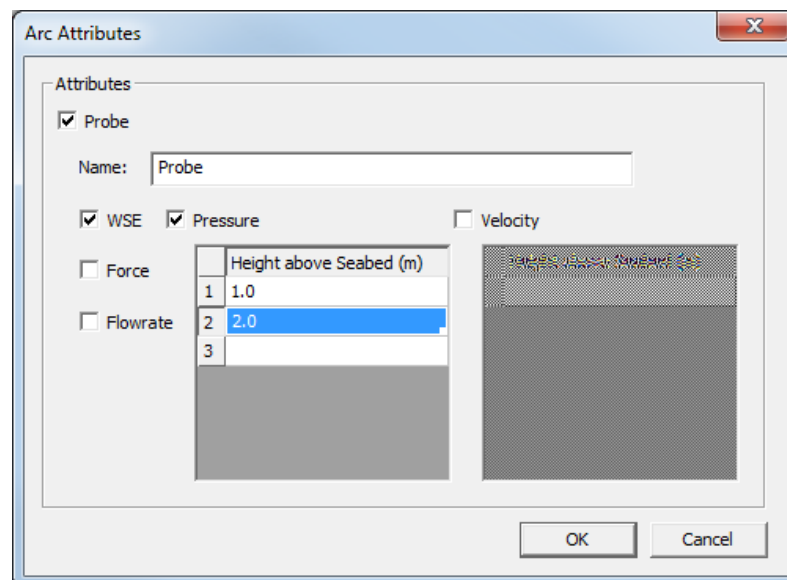

Figure 12 Arc Attributes dialog
4. Right-click on the probe arc and select **Attributes...** to bring up the *Arc Attributes* dialog (Figure 12).